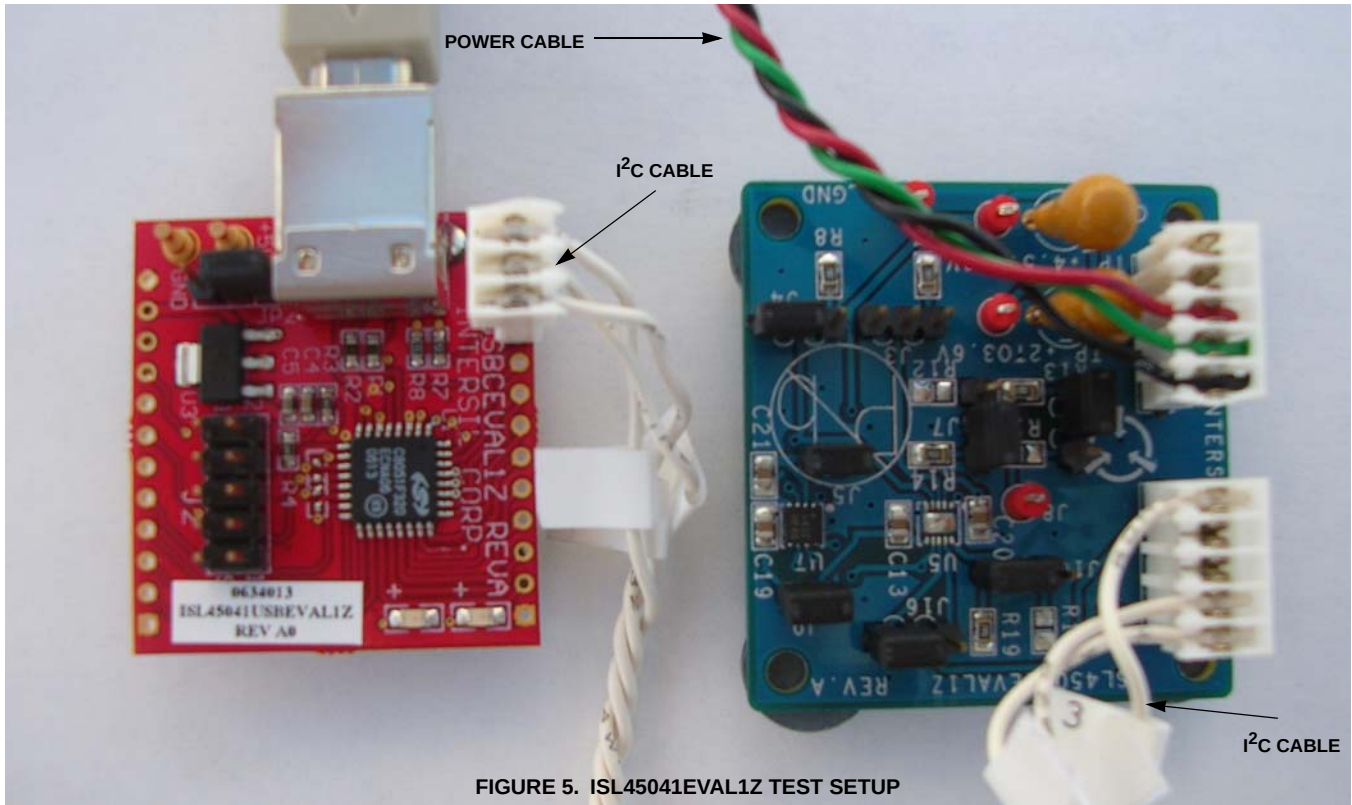

FIGURE 5. ISL45041EVAL1Z TEST SETUP
1. Connect the ISL45041EVAL1Z board to the Intersil USB controller board as shown in Figure 5. Note: Connect the I²C cable as shown in Figure 5.
3. Connect the power supply cable to the ISL45041EVAL1Z board. Note: Connect the power cable as shown in Figure 5. Turn on the power supplies to power up the ISL45041EVAL1Z board (make sure the cables are connected properly -- **RED = AVDD**; **GREEN = VDD**; **BLACK = GND**).